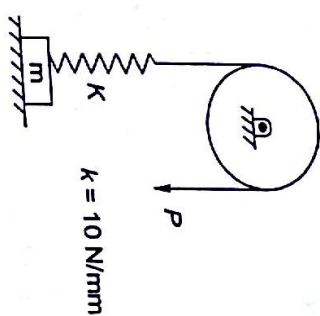

Fig. 3.66
3.9 A mass of 60 kg is supported on the ground. It is tied to a rope through a spring of stiffness 10 N/mm. At the end of the rope a force of 200 N is applied as shown in Fig. 3.66. What is reaction of the ground on the mass, $g = 9.8 \text{ m/s}^2$?